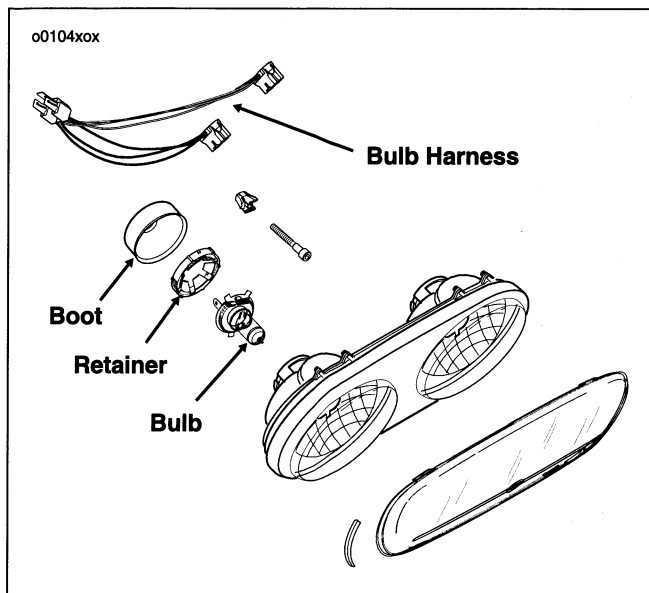

Figure 77. Headlamp
2. See Figure 77. Squeeze two external tabs to disconnect headlamp harness connector from bulb harness.
4. See Figure 77. Remove bulb harness from headlamp socket.